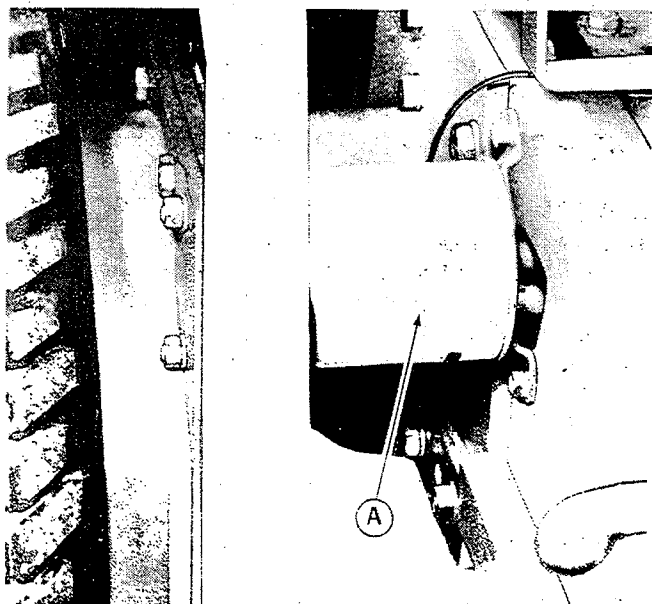

Figure 34. Transmission oil filter on right side of tractor frame.
1. See figure 34. Remove the oil filter (A) by turning it counter-clockwise.